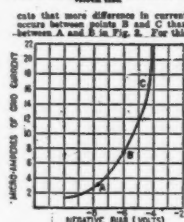

Fig. 2. Characteristic curve of a vacuum tube.
the graphite, each binding post being connected to opposite side of the grid condenser. Variable grid leaks, the resistance of which can be changed as will, are also furnished in an indefinite variety of types, two of which are shown in Fig. 2. (See Detector, Grid Leak, also Grid Control and Aerial.)
**GRID POTENTIOMETER.**—A potentiometer—a variable resistance unit—used in the grid circuit of a vacuum tube for the purpose of controlling the potential applied to the grid. The conventional method is to place the potentiometer across the "A" battery with the center or variable contact arm connected to the grid of the tube in place of the usual connection to either positive or negative filament lead. This is shown in the illustration, Fig. 2. Such the customary circuit is
the potentiometer, each binding post being connected to opposite side of the grid condenser. Variable grid leaks, the resistance of which can be changed as will, are also furnished in an indefinite variety of types, two of which are shown in Fig. 2. (See Detector, Grid Leak, also Grid Control and Aerial.)